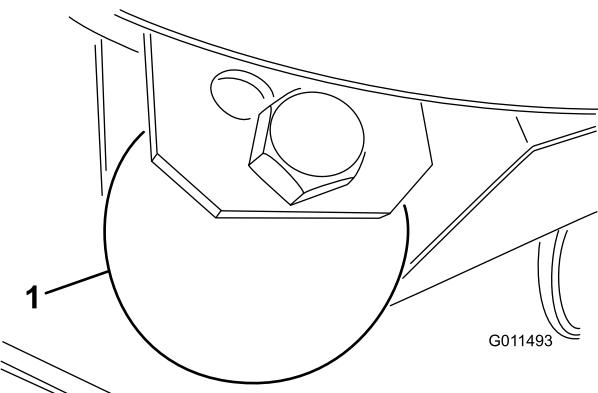

Figure 24
Adjust the skids by removing the flange bolt and nuts, positioning them as desired, and installing the fasteners (Figure 24).
1. Remove the bolt and nut securing the gage wheel to the cutting unit brackets (Figure 24).